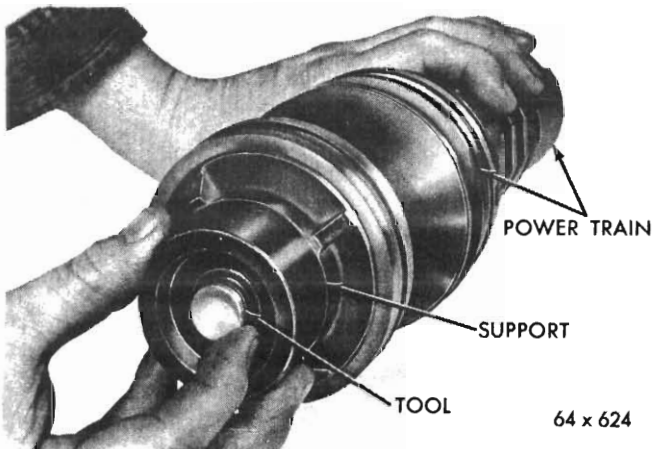

Fig. 13 - Retaining bearing rollers with Tool E19C25B (typical)
(11) Remove the housing, head nut and tang washer.
**NOTE:** The 33 worm bearing needle roller bearings will fall out if the housing head is removed from the wormshaft. Use Tool E19C25B to hold rollers in position when the housing head is removed (refer Fig. 13).
(12) Raise the housing head until the worm shaft oil seal just clears the top of the wormshaft, and Position Tool E19C25B on top of the wormshaft and into the oil seal.